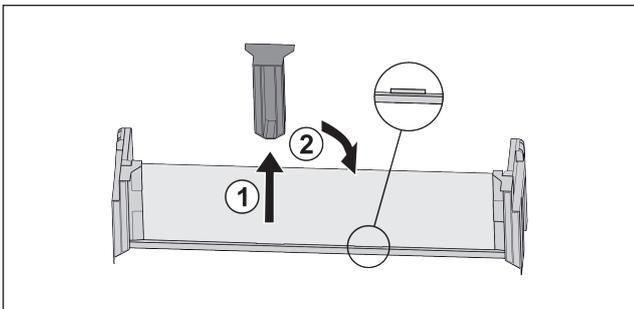

Fig. 65
- ▶ Pull off the middle holder Fig. 65 (1).
- ▶ Insert the middle holder in the second position Fig. 65 (2).